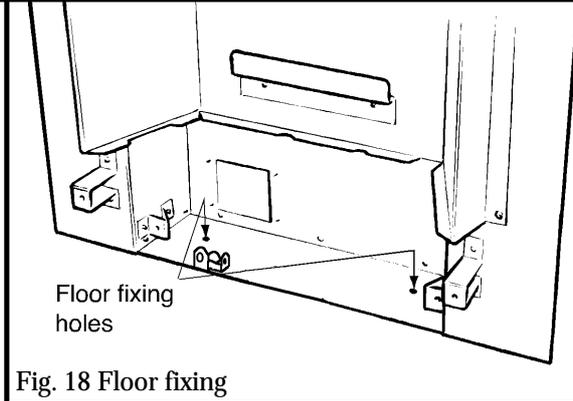

Fig. 18 Floor fixing
7.2.9 Drill a hole into the fireplace floor through each of the two holes in the base of the convection box, using a no.12 masonry drill (see figure 18).